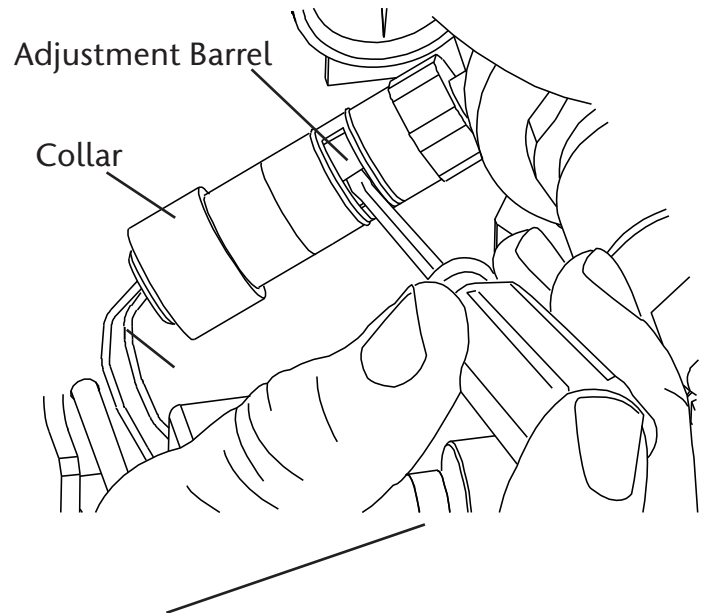

Figure 18
7. If switch adjustment is necessary, slide collar of switch toward wires to access internal adjustment barrel. Insert tip of small screwdriver or Allen wrench into adjustment barrel and rotate barrel (Figure 18).